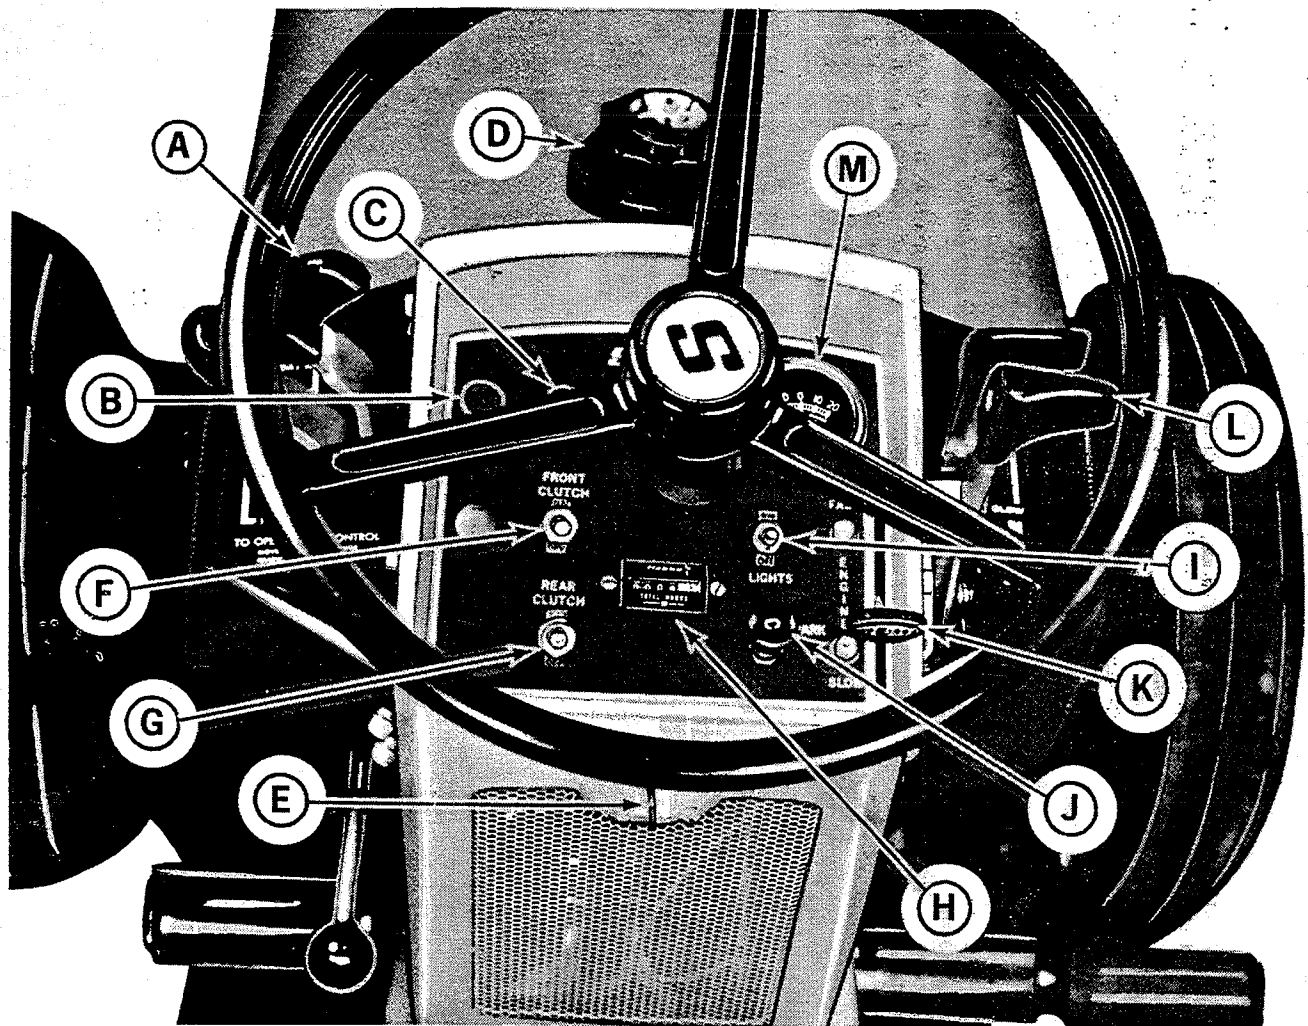

Figure 1. Tractor instrument panel.
Picture yourself seated on your Simplicity 4041 tractor. Before starting the engine, let's learn how to understand and use the instruments and controls. The paragraphs referring to the instruments and controls are illustrated on figures 1 through 4.
**IGNITION SWITCH:** (Figure 1, item E) To actuate the ignition switch first insert the ignition key as shown. When the key is turned clockwise to the first position, the ignition is ON. In the ON position the lights, etc. will operate. Turn the key clockwise past the ON position to the START position to actuate the starter. THE HYDROSTATIC TRANSMISSION CONTROL LEVER MUST BE IN THE NEUTRAL POSITION AND THE FRONT AND REAR (OPTIONAL) ELECTRIC CLUTCH SWITCHES IN THE "OFF" POSITION BEFORE THE STARTER WILL ACTUATE. Release the key as soon as the engine starts. Return the key to the vertical position to stop the engine. **CAUTION: ALWAYS REMOVE THE IGNITION KEY WHEN CLEANING, ADJUSTING OR SERVICING THE TRACTOR OR**
**CHOKE CONTROL KNOB:** (Figure 1, item J) The choke control knob may be pulled out to increase the amount of fuel entering the engine for starting and cold weather warmup. When starting a cold engine in cold weather pull the choke knob all the way out. Little or no choke is normally required to start the engine when the air temperature is above 70° F or while the engine is still warm from being recently run. After the engine has started, push the choke in slowly. In cold weather, it may be necessary to leave the choke pulled out slightly for 3 or 4 minutes while the engine warms up. **NEVER OPERATE THE ENGINE WITH THE CHOKE OUT AFTER IT HAS HAD SUFFICIENT TIME TO WARM-UP—ABOUT 5 MINUTES SHOULD BE SUFFICIENT EVEN IN COLD WEATHER.**
**ENGINE SPEED CONTROL LEVER:** (Figure 1, item K) The engine speed control lever is used to set the desired engine speed. The speed control lever should be moved forward away from the operator to increase engine speed, and back toward the operator to reduce engine speed. Con-
(Figure 1, item C) The engine oil pressure warning light marked **OIL** will glow red when the oil pressure to the moving parts of the engine is low. You can insure the light is functioning properly each time you use the tractor by noting that the light will come on when the ignition switch is turned to the **ON** position. If the red **OIL** light comes on when the engine is running, **STOP THE ENGINE IMMEDIATELY**. Check the oil level in the engine crankcase to insure it is full. Also insure that you are using the proper grade and weight of oil for the weather conditions. See Maintenance section of this manual for instructions on checking the oil level and selecting the proper grade and weight of oil. After insuring the crankcase is filled with the correct oil, start the engine. If the oil light does not go out after the engine has run for 10 seconds, stop the engine immediately and call your Simplicity dealer. **NEVER OPERATE THE ENGINE WHEN THE OIL PRESSURE WARNING LIGHT IS LIT.**
(Figure 1, item B) The transmission oil temperature warning light marked **HOT** will glow red when the transmission oil reaches an unsafe temperature. **IF THE LIGHT COMES ON - STOP THE TRACTOR IMMEDIATELY**. The **HOT** light may have come on because the transmission oil cooler, located behind the engine, is dirty or you are operating with the transmission in too high a gear. See Maintenance section of this manual for instructions on cleaning the oil cooler. After insuring the oil cooler is clean, allow the oil to cool until the light goes out before operating the tractor. The oil will cool fastest if the hydrostatic transmission control lever is placed in the neutral position and the tractor engine run at full speed. If the oil cooler was quite dirty you may be able to proceed with your work in the same gear as before after the **HOT** light has gone out. If, however, the cooler was relatively clean when the light went on, you should shift to the next lower gear before continuing. Figure 5 will give you a good idea of which gear should be used for most operations.
**AMMETER:** (Figure 1, item M) The ammeter indicates the number of amperes of electricity being added to or drawn from the battery. The dial indicator will move right to the (+) charging position when electrical energy is being added to the battery and left to the (-) discharge position when electrical energy is being drawn from the battery. The indicator will normally fluctuate around the dial center or to the (+) side of the dial. It is normal for the indicator to show some discharge when the engine is idling; however, it should move to the center or to the charge position as the engine speed is increased. If the ammeter remains in the discharge position with the engine at full speed, the alternator or regulator may not be functioning properly. Check the fuse located at the right front corner of the engine. A blown fuse is only a symptom of a more serious electrical problem. Check circuit out thoroughly before replacing the blown fuse. See your Simplicity dealer if replacing the fuse does not correct the problem.
(Figure 1, item F) The front clutch switch is used to actuate the electrically controlled power take off clutch, which drives center or front mounted attachments, such as the center mounted rotary mower, sickle bar, or front mounted snow thrower. To actuate the clutch, move the switch forward to the **ON** position. Pull the switch back to the **OFF** position to stop the attachment. **THE CLUTCH SWITCH MUST BE IN THE "OFF" POSITION TO OPERATE THE ENGINE STARTER.**
(Figure 1, item G) The rear clutch switch is used to actuate the electric clutch which controls the power take off drive to rear mounted attachments such as the rotary tiller. To operate the rear power take off, move the switch forward to the **ON** position. To stop the power take off, pull the switch back to the **"OFF"** position. **BOTH THE FRONT AND REAR CLUTCH SWITCHES MUST BE IN THE "OFF" POSITION TO OPERATE THE ENGINE STARTER.**
**LIGHT SWITCH:** (Figure 1, item I) The light switch should be pushed forward to the **ON** position to turn on the tractor lights. To prevent the lights from being turned on by unauthorized persons, remove the key from the ignition switch. To turn the lights off, pull the light switch back to the **OFF** position.
(Figure 1, item H) The hourmeter records the number of hours the engine runs; however, since it is electrically operated it will run anytime the ignition switch is in the **ON** position even though the engine may not be running. The hourmeter is useful in keeping accurate maintenance records and also a convenient way of telling how much time the tractor has been used on a particular job.
(Figure 1, item D) The fuel gauge indicates the amount of fuel in the tank. Before adding fuel, shut off the engine and allow it to cool. To remove the fuel gauge and filler cap for adding gasoline, turn the fuel filler gauge-cap counter-clockwise. The fuel tank holds approximately 3.8 gallons - enough for about 4 hours of mowing or 3 hours of plowing. **WARNING: DO NOT ALLOW LIGHTED CIGARETTES, MATCHES, ETC., AROUND ANY OPEN GASOLINE CONTAINER. DO NOT OVER FILL; WIPE UP ANY SPILLED GASOLINE.**
**HYDRAULIC LIFT CONTROL LEVER:** (Figure 1, item A) The hydraulic control lever controls the flow of oil used to operate the hydraulic cylinder. The hydraulic cylinder is normally connected to the lift cables which raise center mounted attachments. If the tractor is equipped with the 3-point hitch (optional - factory or field installed), the hydraulic control lever can also control rear attachments mounted on the 3-point hitch such as a rotary tiller or a moldboard plow. See Attachment section of the manual for complete information on using the 3-point hitch. The hydraulic cylinder can also be used to control front mounted attachments such as the snow thrower or dozer blade, if the front hydraulic kit (optional - factory or field
(Figure 1, item L) The hydrostatic transmission control lever regulates the direction and amount of oil (fluid) pumped by the hydrostatic transmission pump to drive the tractor and is used to control both the direction of travel and the ground speed of the tractor. **NEUTRAL** position for the hydrostatic transmission control lever is as shown with the back of the control lever guide resting against the notched portion of the guide. The hydrostatic transmission control lever must be in this neutral position for the engine starter to operate.